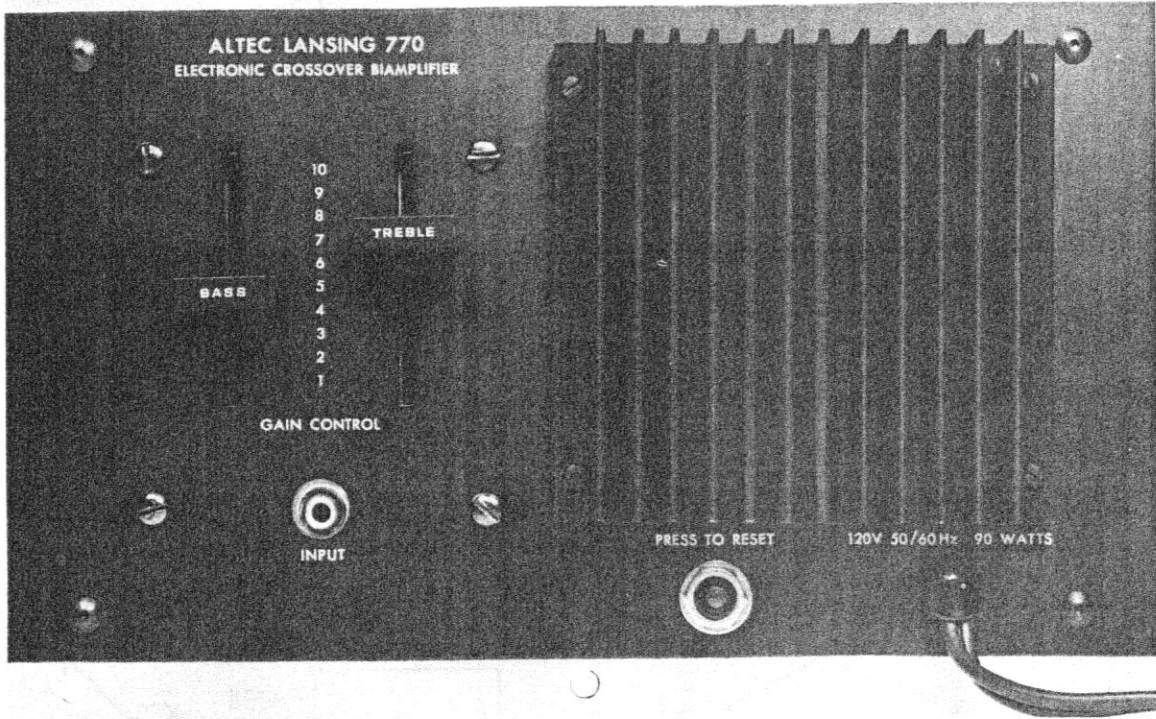
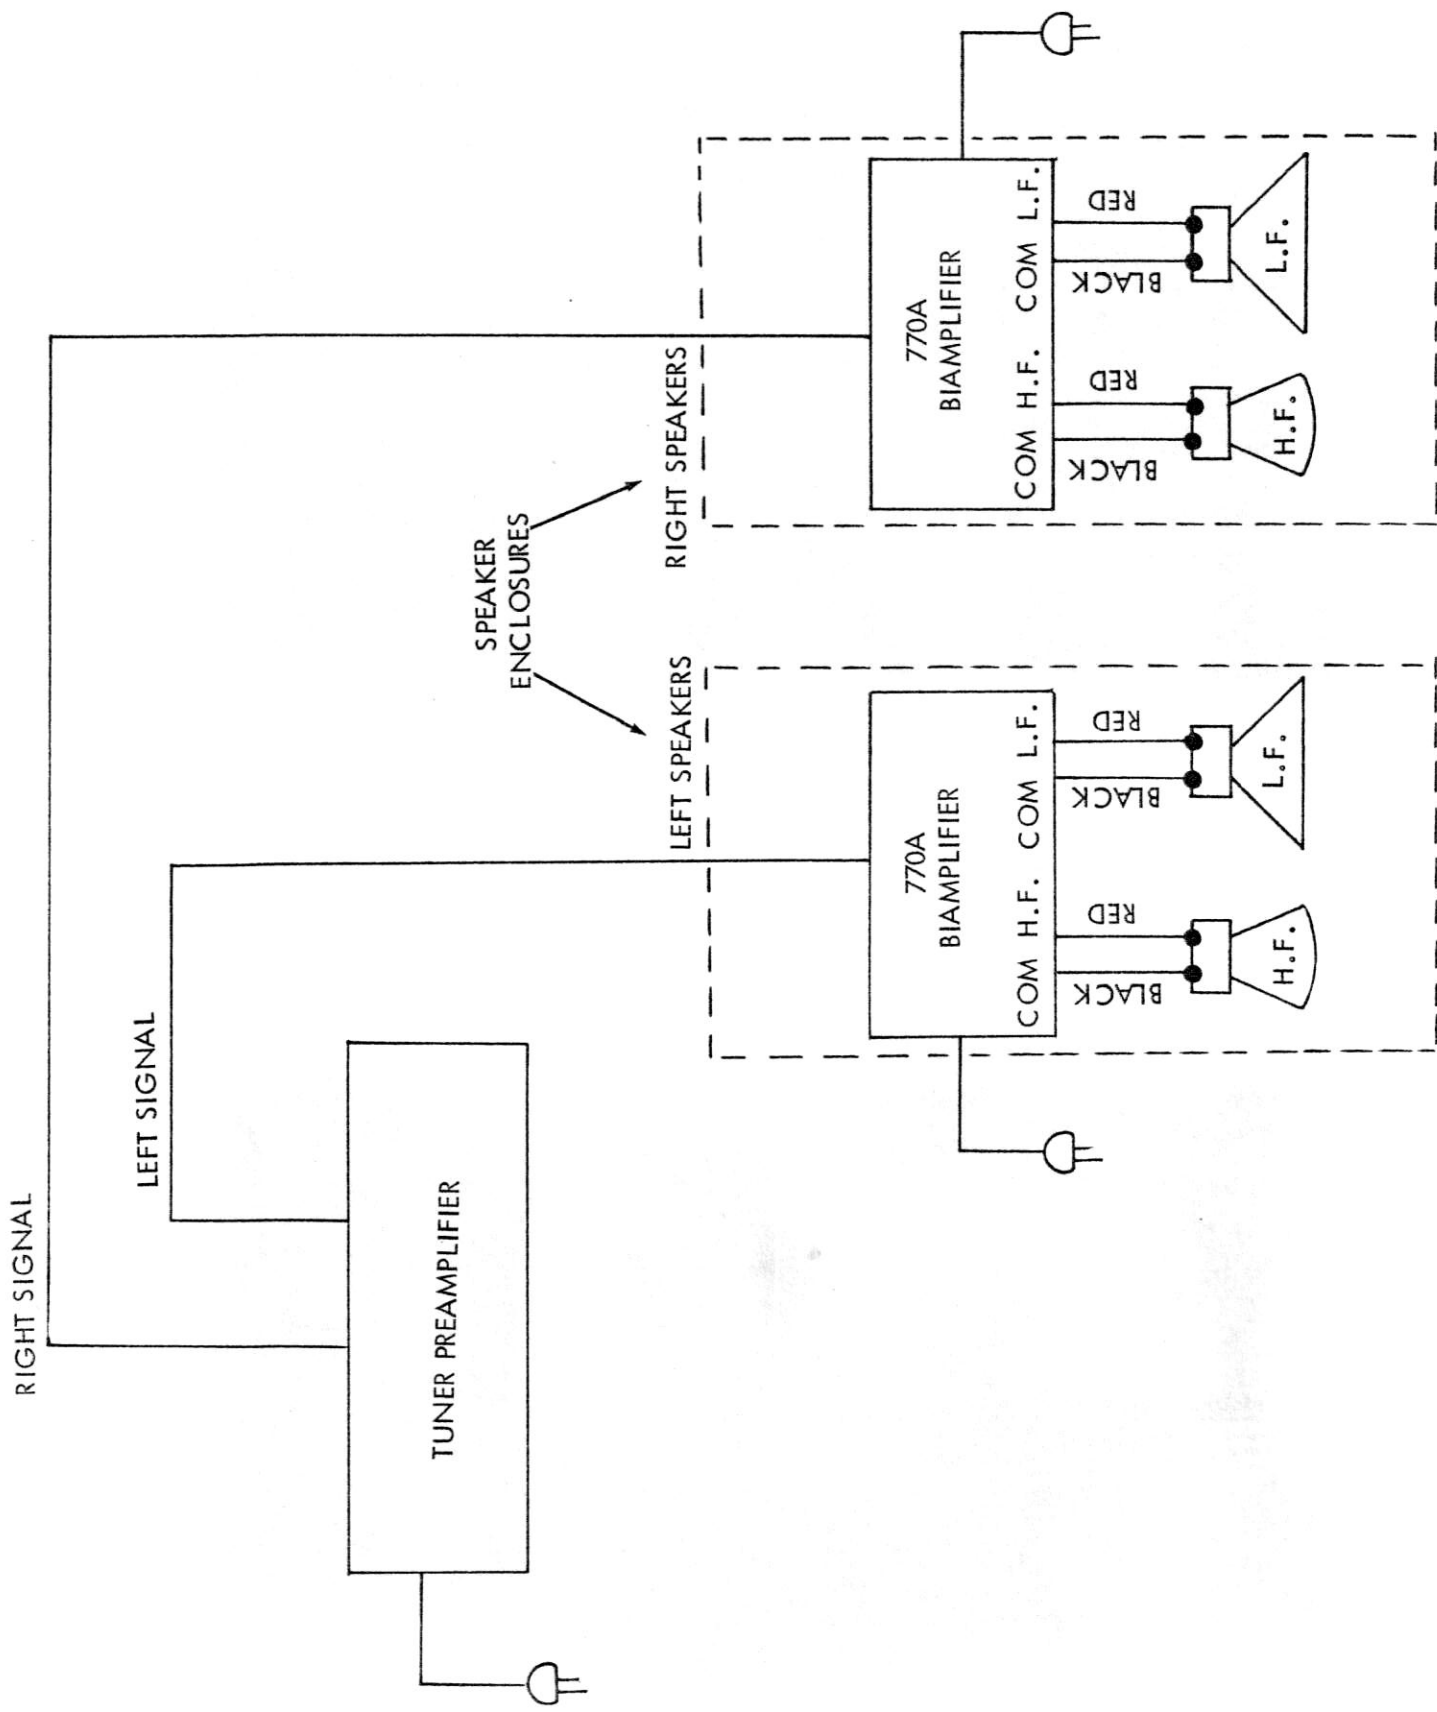

Figure 2. View of 770A Front Panel
Figure 4. Speaker connection Diagram
Completely self-contained, including its own dc power supply, the 770A plugs into any 120V, 50/60 Hz outlet and requires only simple connections to the LF speaker and HF driver. ALTEC's space-saving design for the 770A permits easy installation in the rear of the speaker enclosure, if desired. Figures 2 and 3 show front and right side views and Figure 4 illustrates wiring instructions.
5. Connect the speakers, as shown in Figure 4, with stranded AC line (zip or Class 11) or with the four special speaker wires provided with the 770A. When using stranded wire, be sure no loose strands are short circuiting to adjacent terminals or to the case of the 770A.